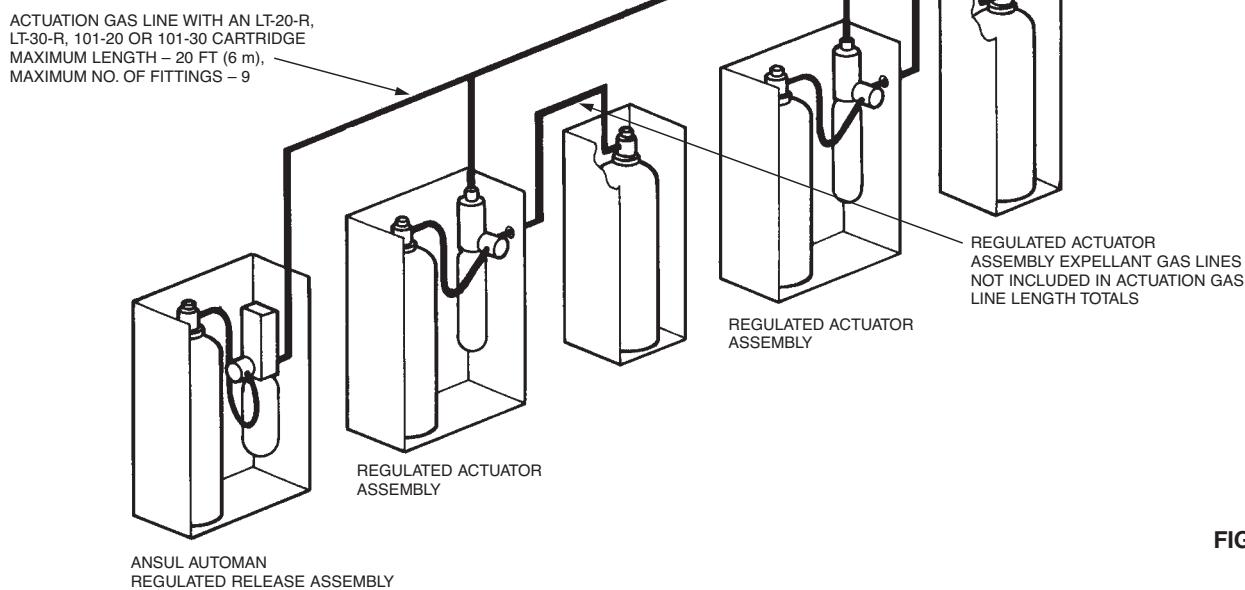

FIGURE 8
- ▶ 3. The total combined length of the actuation gas line from the regulated release assembly to all regulated actuator assemblies must not exceed 20 ft (6 m) when using an LT-20-R nitrogen cartridge, an LT-30-R nitrogen cartridge, a 101-10 CO2 cartridge, or a 101-20 CO2 cartridge. See Figure 8.